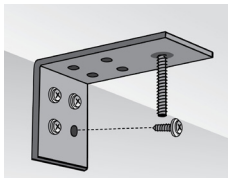

Figure 1: Face Mount
Your roman shade will come with brackets for face mounting [Figure 1].
2. Holding the shade in place in its installation position, use the mounting bracket installation screws to screw directly through the shade head rail into the pre-drilled holes to install the shade [Figure 1].